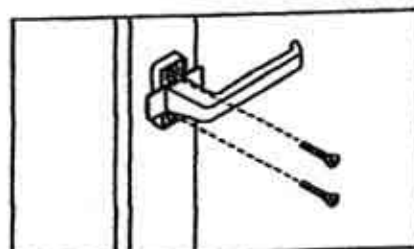

Figure 4-5. Where to install the mounting screws
- 2.4 Lock position: rotate the SA-FE-Handle to the horizontal Turn position. This gives you access to both of the screw holes see fig. 4-5. Insert the screws that came with the handle and tighten them. See fig. 4-5. Go to step 2.7.
- 2.6 Turn position: insert the screws supplied and tighten them. See fig. 4-5.